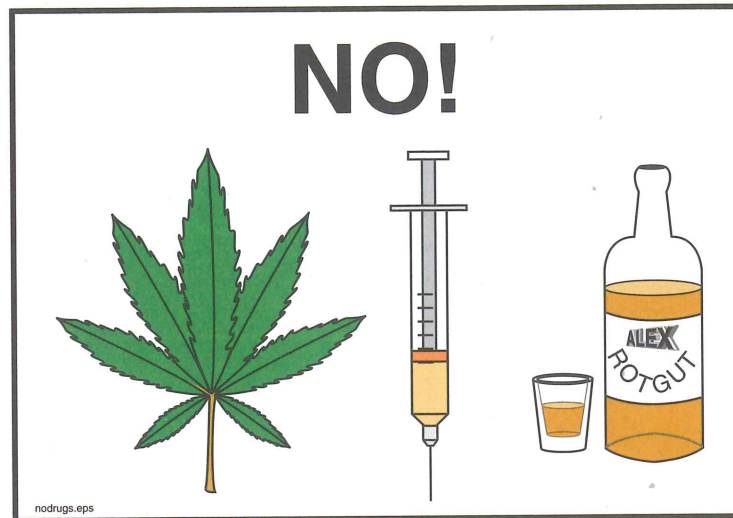

Figure 3
2.6 **⚠ WARNING** Never go to work on a construction site or work on, around or near a piece of machinery when under the influence of drugs or alcohol. Beware of prescription medications or over the counter drugs, many of which have specific warnings about operating machinery after taking the medication (Figure 3).